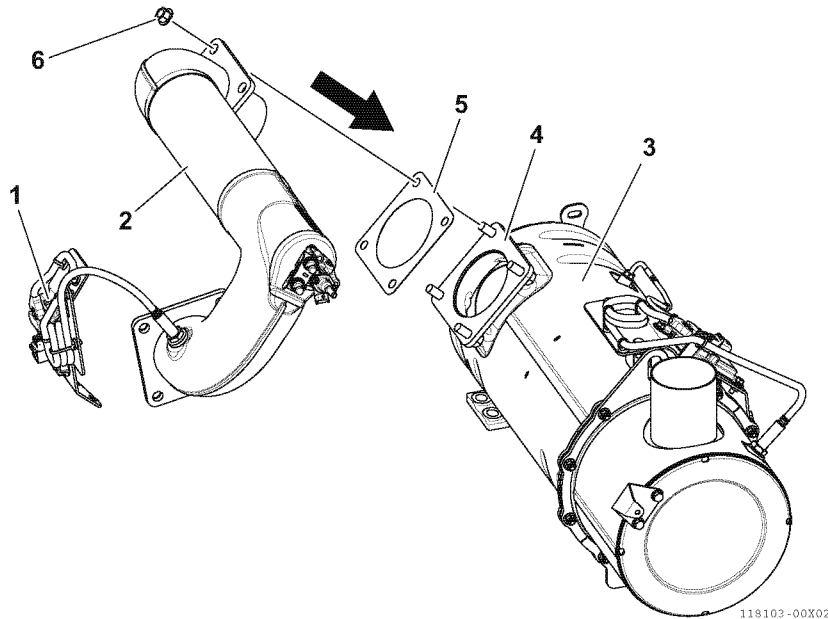

Fig.25-57
- Insert the SCR pipe (2, Fig.25-57) with the upstream NOx sensor assembly (1, Fig.25-57) attached to the exhaust gas inlet flange (4, Fig.25-57) of the SCR (3, Fig.25-57) together with the new gasket (5, Fig.25-57). Loosely tighten it using the nuts (6, Fig.25-57).